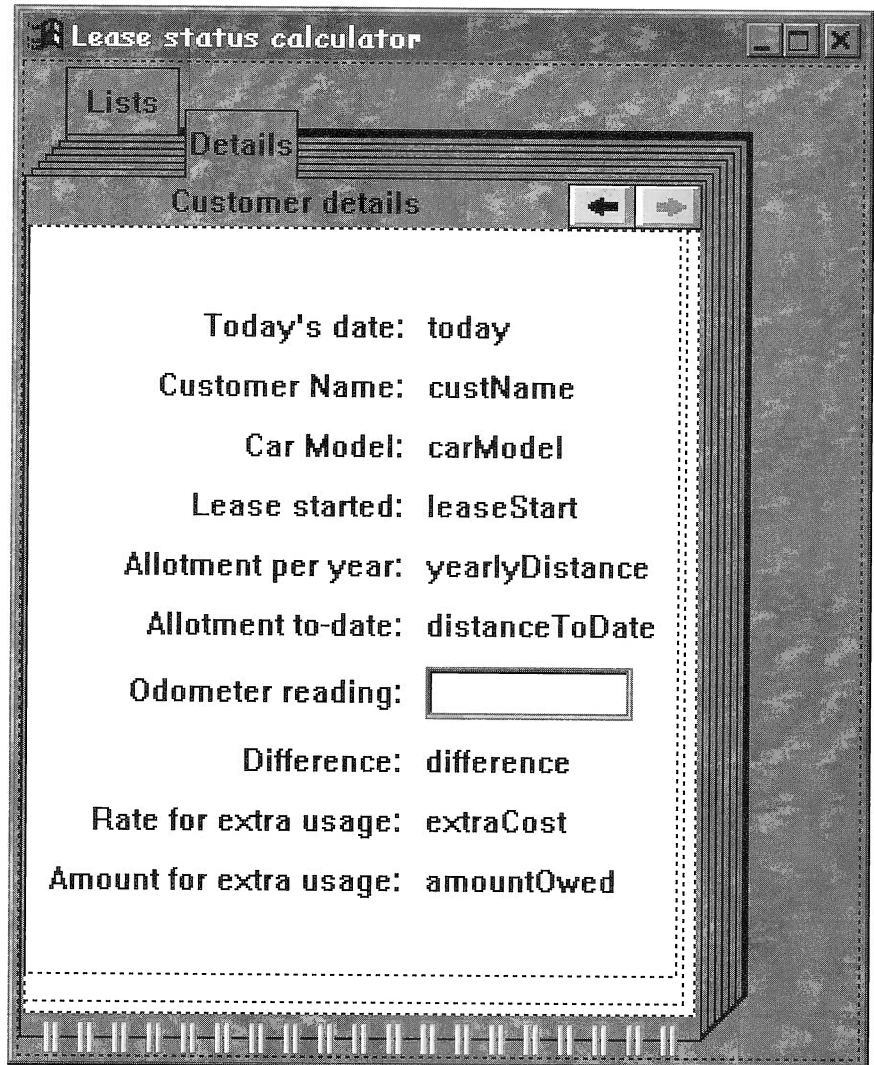

Figure 178: Second page of the notebook
- ☐ Size the **CustomerCanvas** so that it fills most of the area on the viewport. Leave a few pixels of the viewport visible so it can be selected if needed. The notebook should look like Figure 178.